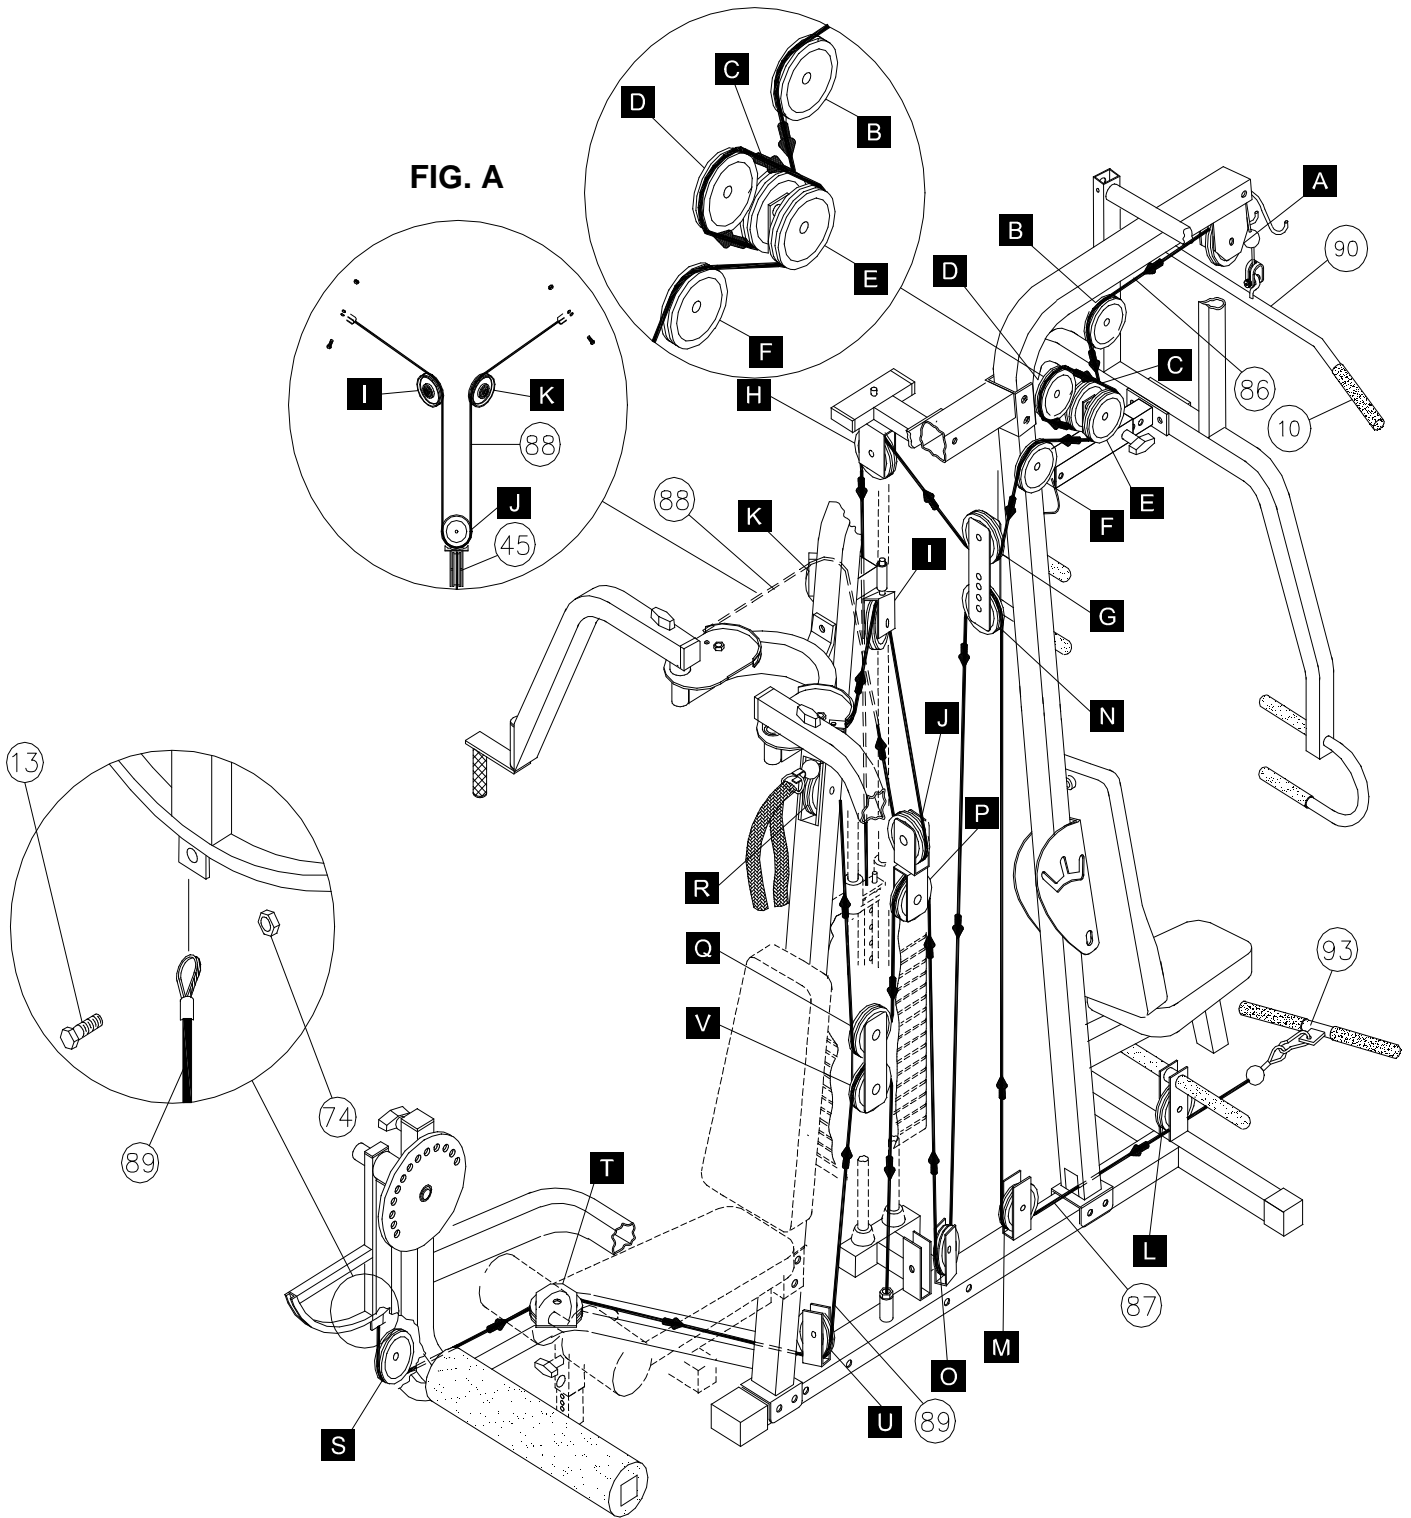

FIG. 72
FIG. 25 Locate the **Female Adjustment Housing (#53)**, **Cable Retainer Bracket (LG) (#55)** and two Nylon Pulleys 4 1/2 Rd. (#17). Assemble, as shown above, using one Hex Head Cap Screw 3/8-16 X 4 1/4 (#71), one Nylon Spacer 3/8 X 3/4 (#83), one Nylon Spacer 3/8 X 3/8 (#82), two Flat Washers SAE 3/8 (#12) and one Nylon Insert Lock Nut 3/8-16 (#81). Refer to **Fig. 72** on page 21 for further clarification of this assembly. **Note:** Be sure to position the **Cable Retainer Bracket (LG) (#55)**, as pictured above and in **Fig. 26**. Also, the **Bench Press Selector Tube (#54)** has been pre-assembled into the **Female Adjustment Housing (#53)** by the factory.